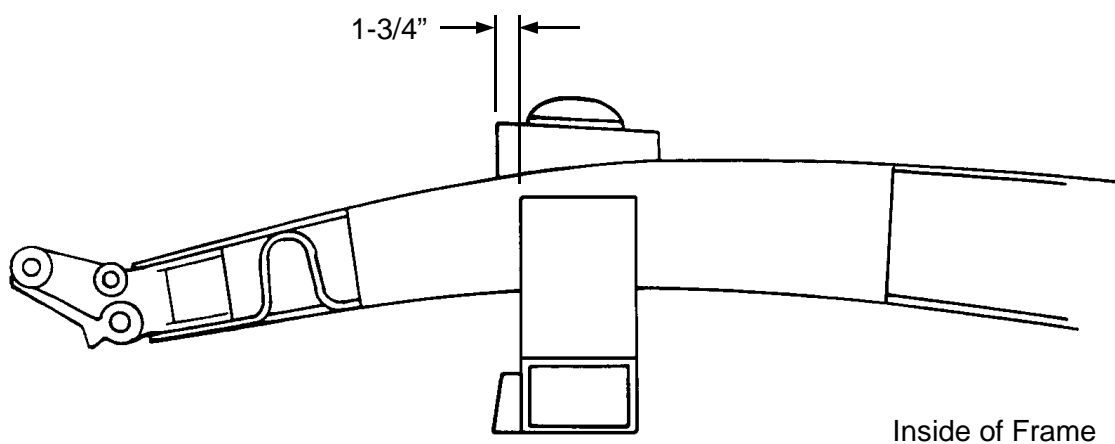

Figure 4
7. Next are the spring towers. They sit on top of the frame rails, and are located 1-3/4" forward of the front of the crossmember, as shown in Figure 4. The higher side of the spring towers goes toward the front. Seat them fully against the frame, grind to fit the tops of the frame rails, clamp in place, then tack weld.